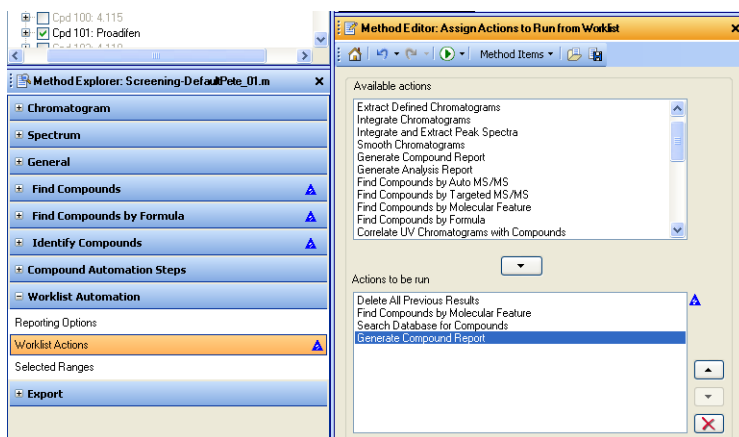

Figure 8 Method Editor with list of selected actions
- 2 Copy the actions that you want the method to do from the **Available actions** list to the **Actions to be run** list. See Figure 8.